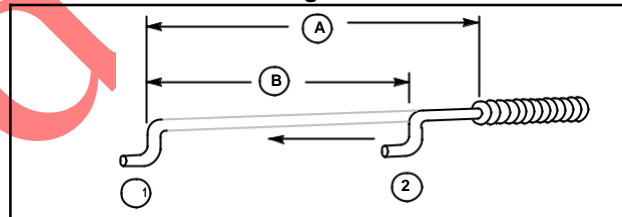

Fig. 12
Travel of remote control wire must be a minimum of 1-3/8" (35 mm) (B) in order to achieve full "CHOKE" (1) and "STOP" (2) position, Fig. 12. Distance (A) is 2-1/8" (54 mm).